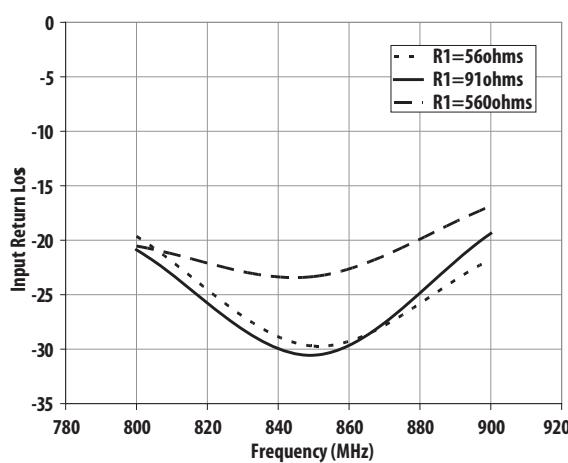
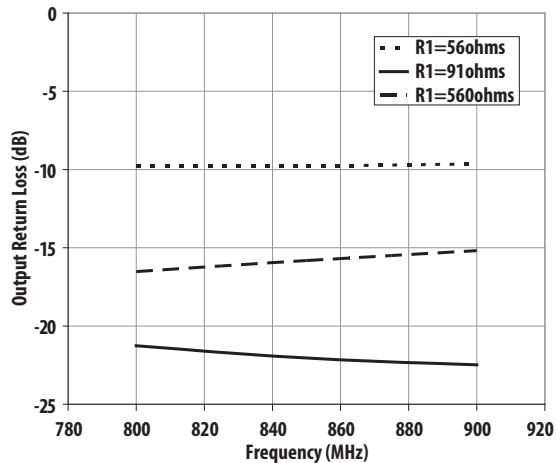
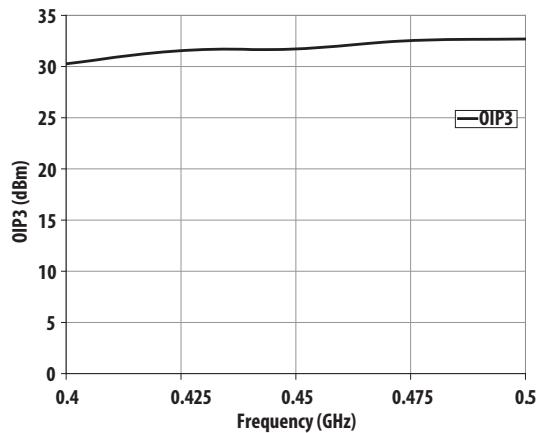

Figure 21. Input Return Loss Vs Frequency and R1
Figure 22. Output Return Loss Vs Frequency and R1
Figure 24. OIP3 vs Frequency
- For Figure 22, 23 and 24, measurements obtained using demo board described in Figure28 and Table 1, List 2.
Note: This demo board is used for measuring Electrical Specifications and plots of Fig. 4 to Fig. 24. Table 1, List 1 shows the components values used while measuring Fig. 4 to Fig. 21. Table 1, List 2 shows the components values used while measuring Fig. 22 to Fig. 24.
These component values are used when measuring Electrical Specifications and plots of Fig. 4 to Fig. 21.
These component values are used while measuring plots of Fig. 22 to Fig. 24.